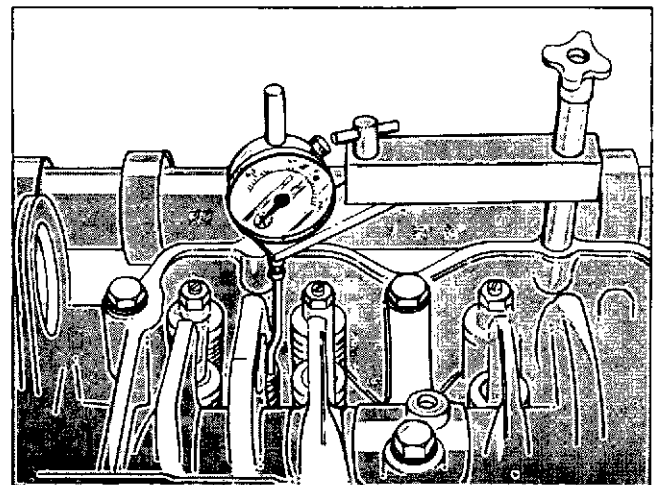

Fig. 14-72 (OM1051L). Check The Travel Of The Injector Plunger.
- Use the Part No. 3375842 Injector Adjustment Kit to check the travel of the injector plunger. Install the dial indicator and support so that the extension for the dial indicator is against the injector plunger, Fig. 14-72. Make sure that the extension is correctly installed into the indicator stem and that it does not touch the rocker lever.